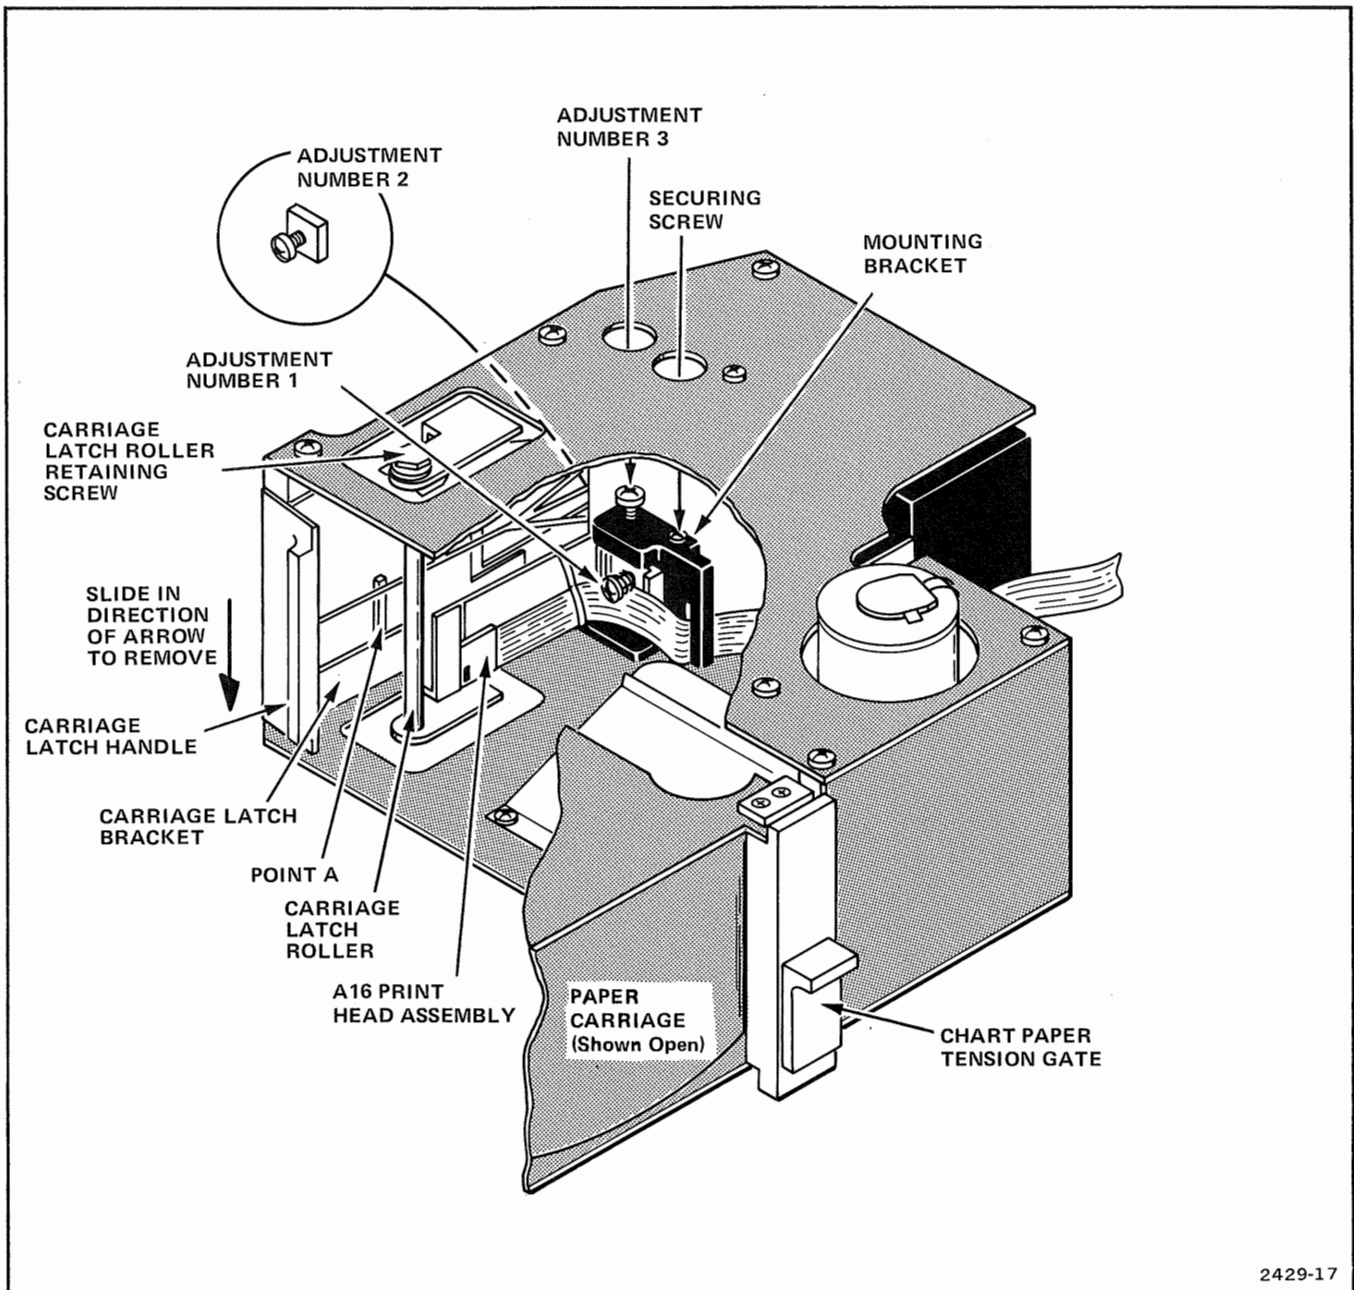

Figure 4-9. Location of securing screws and tension-adjusting screw for the Print Head Assembly.
Remove the A16 Print Head Assembly as follows: (Refer to Fig. 4-9).
Replace the Print Head Assembly as follows: (Refer to Fig. 4-9)
1. With paper carriage closed, check pressure on Print Head Assembly at point A (Fig. 4-9), using a dynamometer. Pressure should be 100 grams (± 25 grams); if not, open paper carriage and rotate Adjustment #1. Clockwise rotation increases pressure while counterclockwise decreases pressure.
5. Slide Carriage Latch Handle off Carriage Latch Bracket. See Figure 4-9.